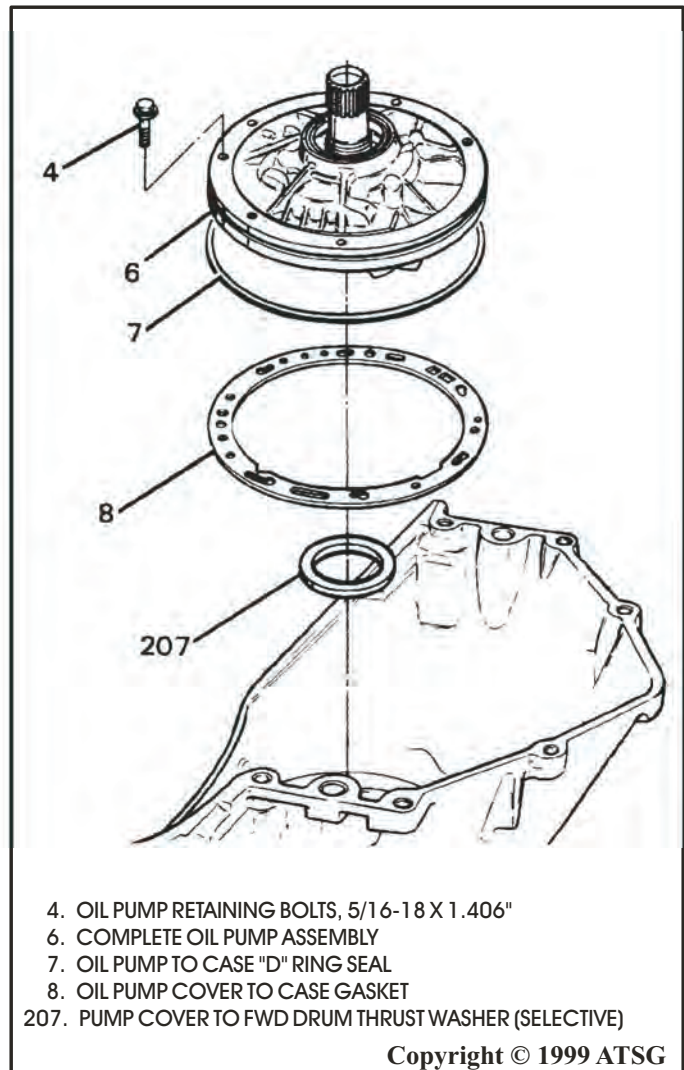

Figure 112
17. Install the oil pump to case gasket onto the case as shown in Figure 112, ensuring that the holes are properly aligned.
19. Install the completed oil pump assembly into the case, as shown in Figure 112.
20. Install the oil pump assembly to case retaining bolts, as shown in Figure 112.